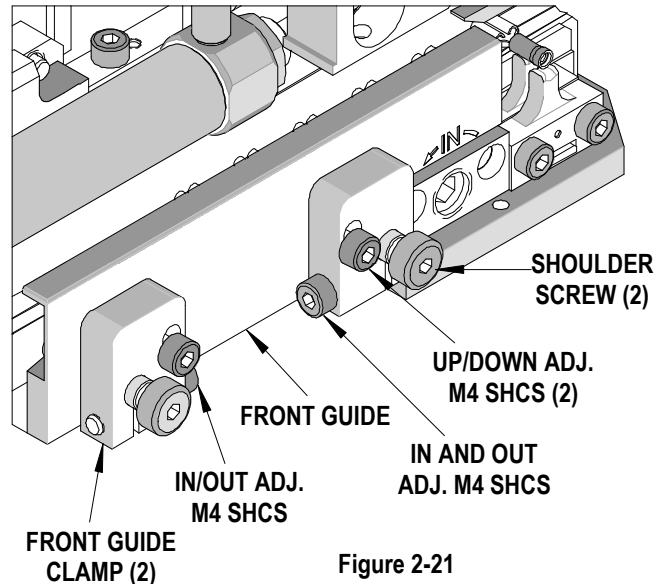
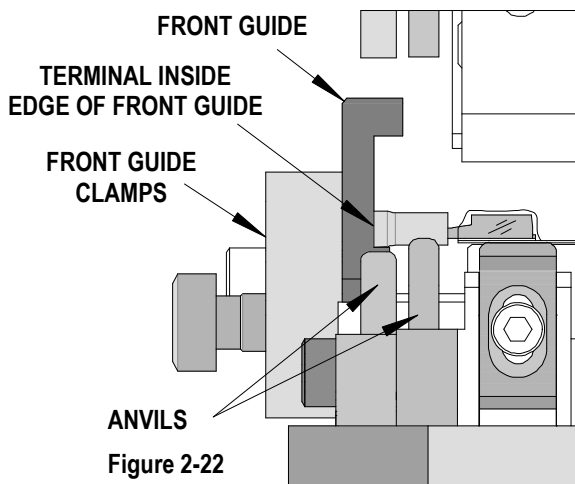

Figure 2-21
Figure 2-22
3. To adjust the front guide in or out, use a 3mm hex wrench to loosen the (2) M4 SHCS that clamp the guide to the shoulder screws. See Figure 2-21.
4. With taped product loaded in the track, adjust the front guide up to the product so its running surface contacts the terminals. See Figure 2-22. The front guide is adjusted in or out to keep the Mylar tape captured in the track. If the guide is adjusted too far in, excessive drag on the terminals will result, causing slow or short feeds or terminal misalignment on the tape. If the guide is adjusted too far out, the mylar tape may drift off the feed pawls and stop feeding altogether.
5. When the in/out adjustment is complete, lock the guide on the shoulder screws by tightening the (2) M4 SHCS.
6. To adjust the angle of the front guide, loosen the (2) M4 SHCS that hold the front guide to the front guide clamp. See Figure 2-21.
7. Tilt the front guide up or down, so the terminal will feed over the anvil(s). This adjustment is important when crimping expanded-flare products. See Figure 2-22.
8. When the angle adjustment is complete, lock the guide on the clamps by tightening the (2) M4 SHCS.